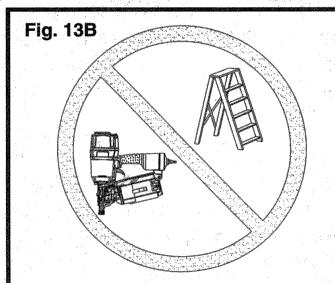

Fig. 13B
24. DO NOT USE ON SCAFFOLDINGS OR LADDERS or for tasks in which changing location involves the use of scaffoldings, stairs, ladders, and the like. Do not use for specific tasks such as closing boxes or crates or fitting transportation safety systems on vehicles and wagons. Fig. 13B.